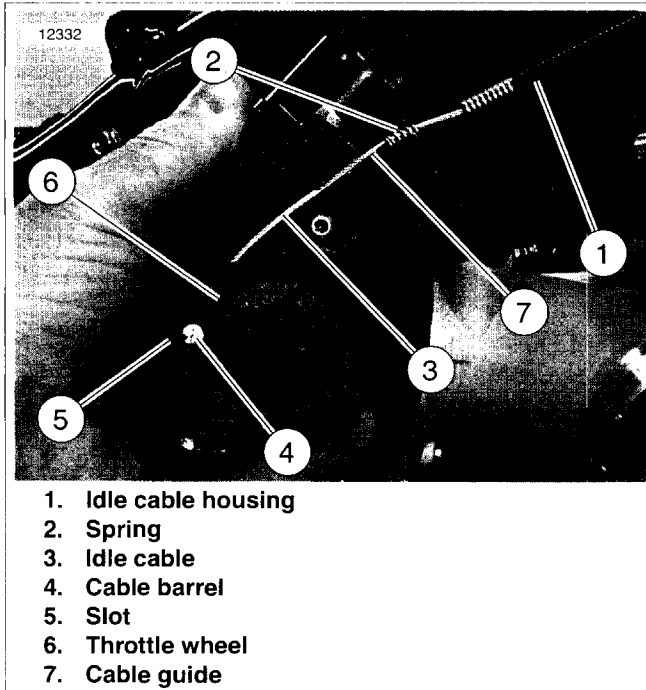

Figure 4-43. Removing/Installing Idle Cable
17. See Figure 4-43. In a similar fashion, remove idle cable (3) from throttle wheel (6):
- a. Lift idle cable housing (1) and spring (2) up out of cable guide (7) in throttle/idle cable bracket.
- b. Slide idle cable (3) out through slot in cable guide.
- c. Unwind idle cable from groove in throttle wheel (6).
- d. Slide cable out through slot (5) and remove idle cable barrel (4) from throttle wheel.
- See Figure 4-43. Install idle cable barrel (4) into throttle wheel (6). Slide idle cable (3) through slot (5) and wind around groove in throttle wheel.
- Pull cable through slot in cable guide (7). Slide spring (2) and end of idle cable housing (1) down into cable guide.